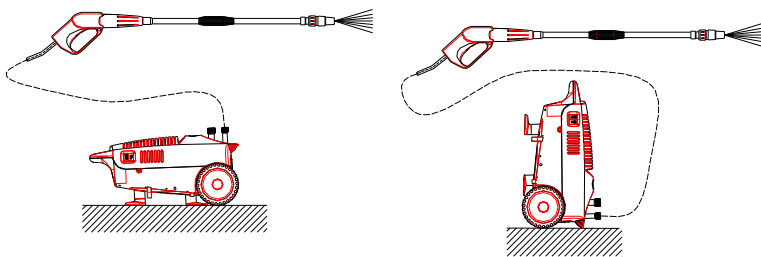

figure 5
5.3.9 It could place on two states in working. See figure 5